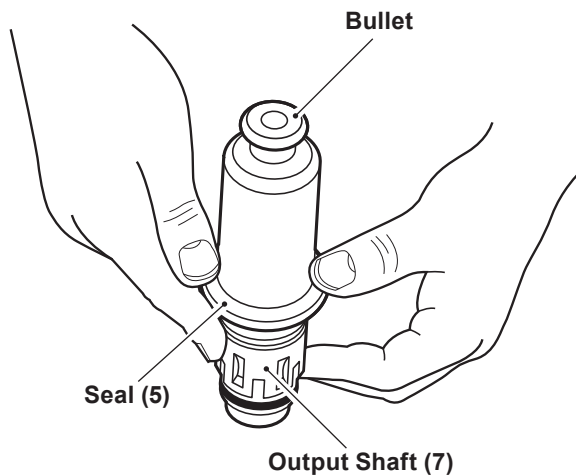

Figure 1, Bullet/Output Shaft Seal
1. Place the bullet on the output shaft (7) and mount the output shaft seal (5). See figure 1.